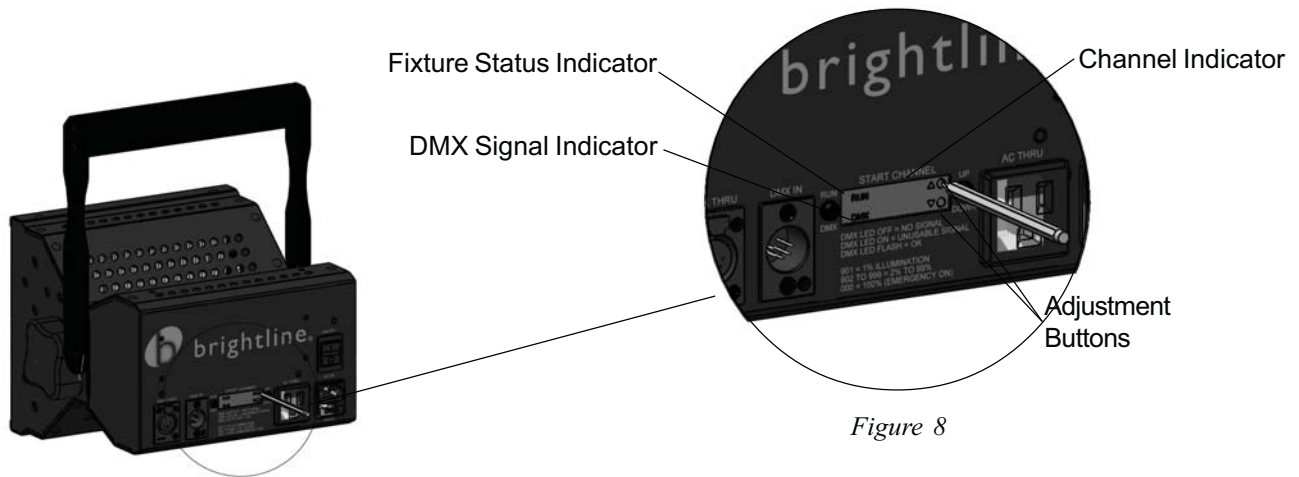

Figure 8
1. Program DMX addresses by gently pressing in the adjustment buttons with a pointed object such as a pen (Figure 8).